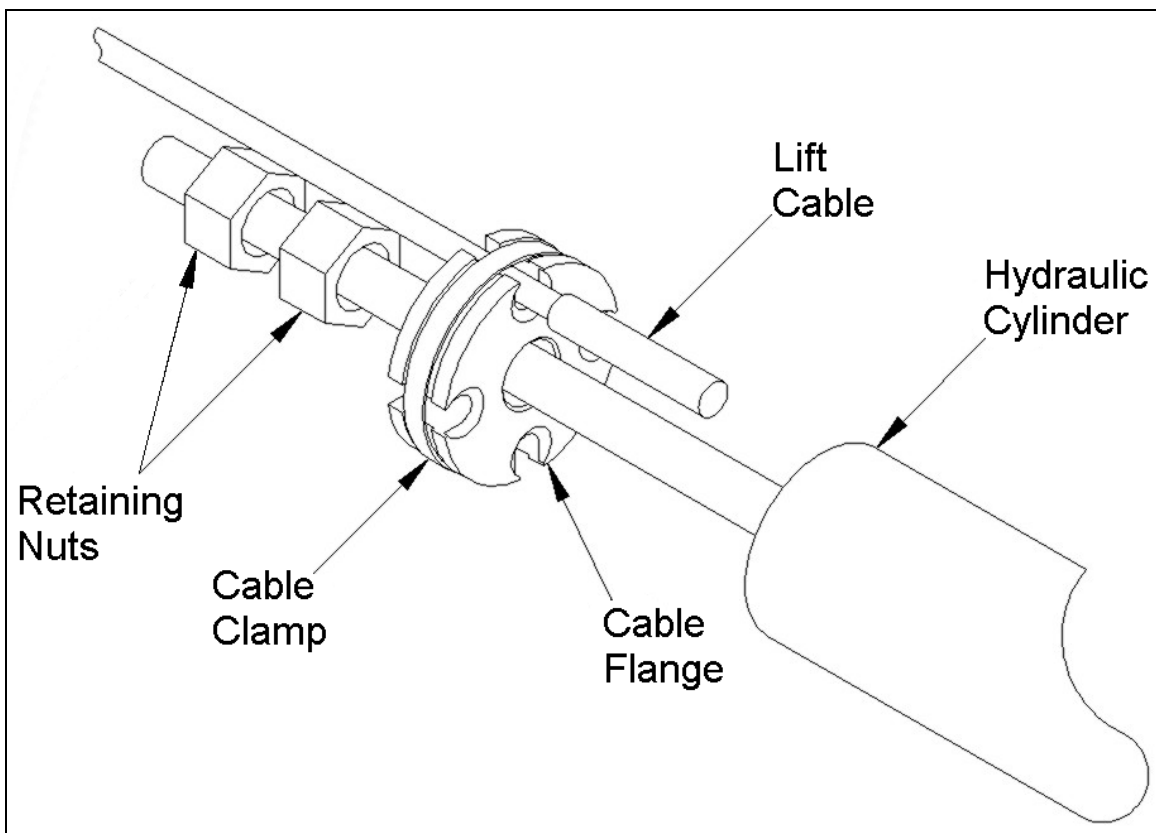

Figure 4. Cable Installation at Flange
NOTE: Refer to Figure 4 and the Parts Manual, Cable Routing Diagram for a detailed layout of cable routing.
- The non-threaded ends of the cables are pre-installed on the cable flange. Ensure that the cable flange is installed with the counterbores facing towards the hydraulic cylinder as shown in Figure 4
- Ensure that the two retaining nuts are positioned as shown in Figure 4. The nuts should be locked against each other using two wrenches.